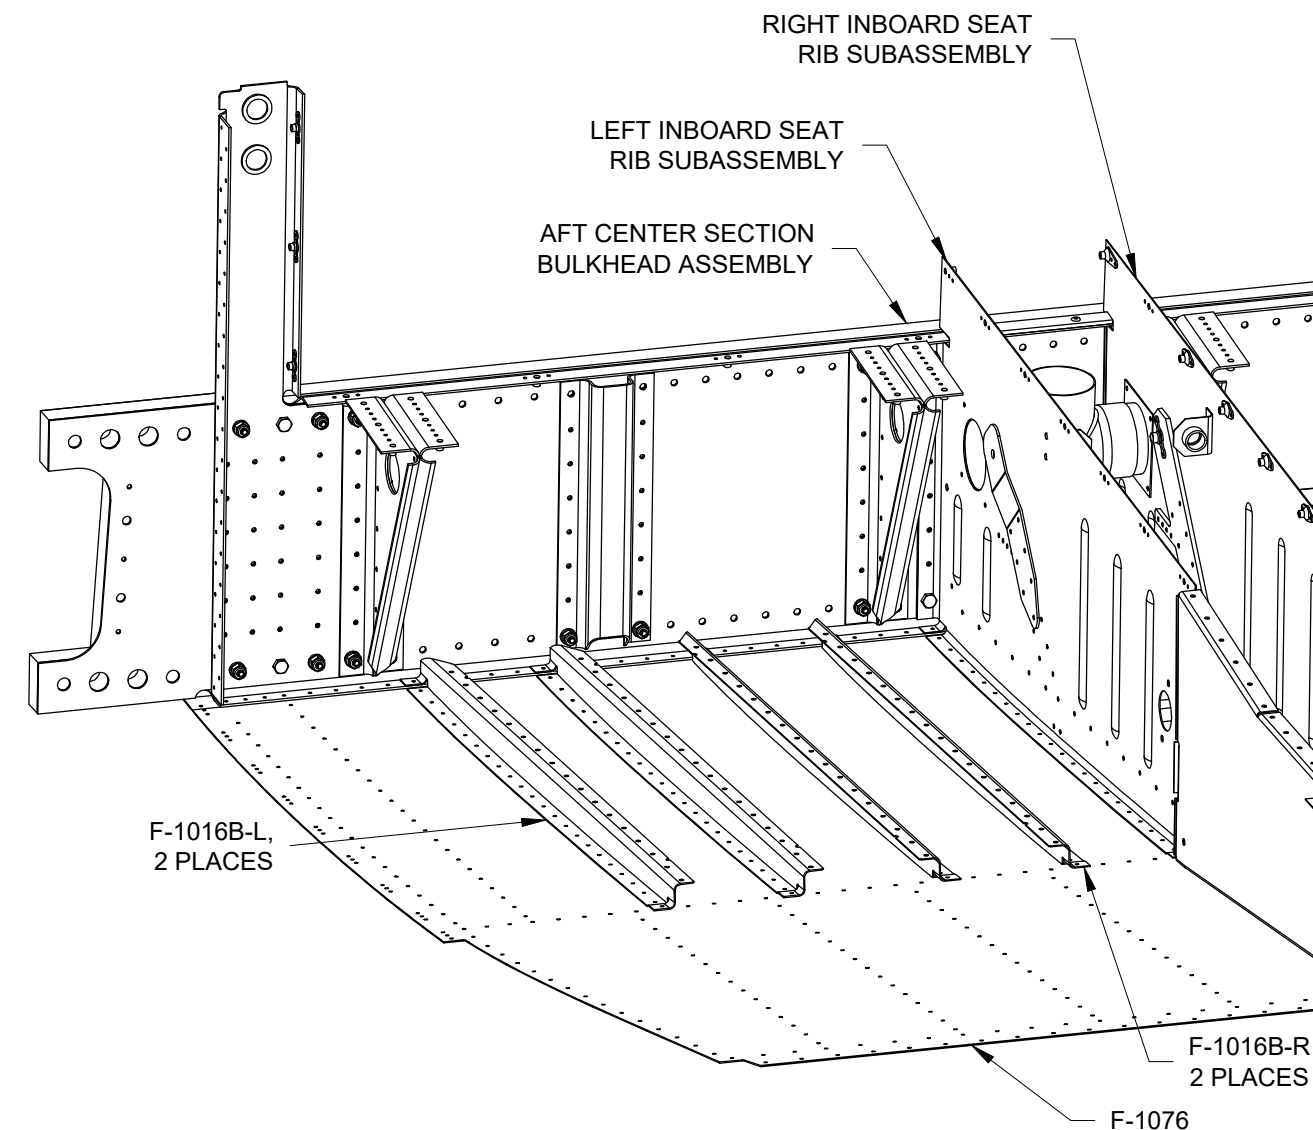

FIGURE 2: FLOOR STIFFENER INSTALLATION
Step 4: Repeat Step 1, cleco the F-1016B-L and -R Floor Stiffeners in place then rivet the skins to the ribs, bulkheads and floor stiffeners per the rivet callouts in Page 26-8, Figure 1 and Page 26-8, Figure 2.